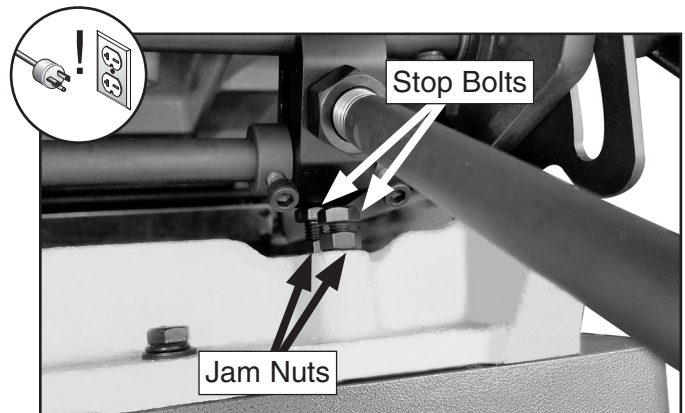

Figure 44. Location of outfeed table stop bolts and jam nuts.
- Loosen outfeed table lock located at front of machine, and loosen jam nuts and stop bolts located under outfeed table (see **Figure 44**).